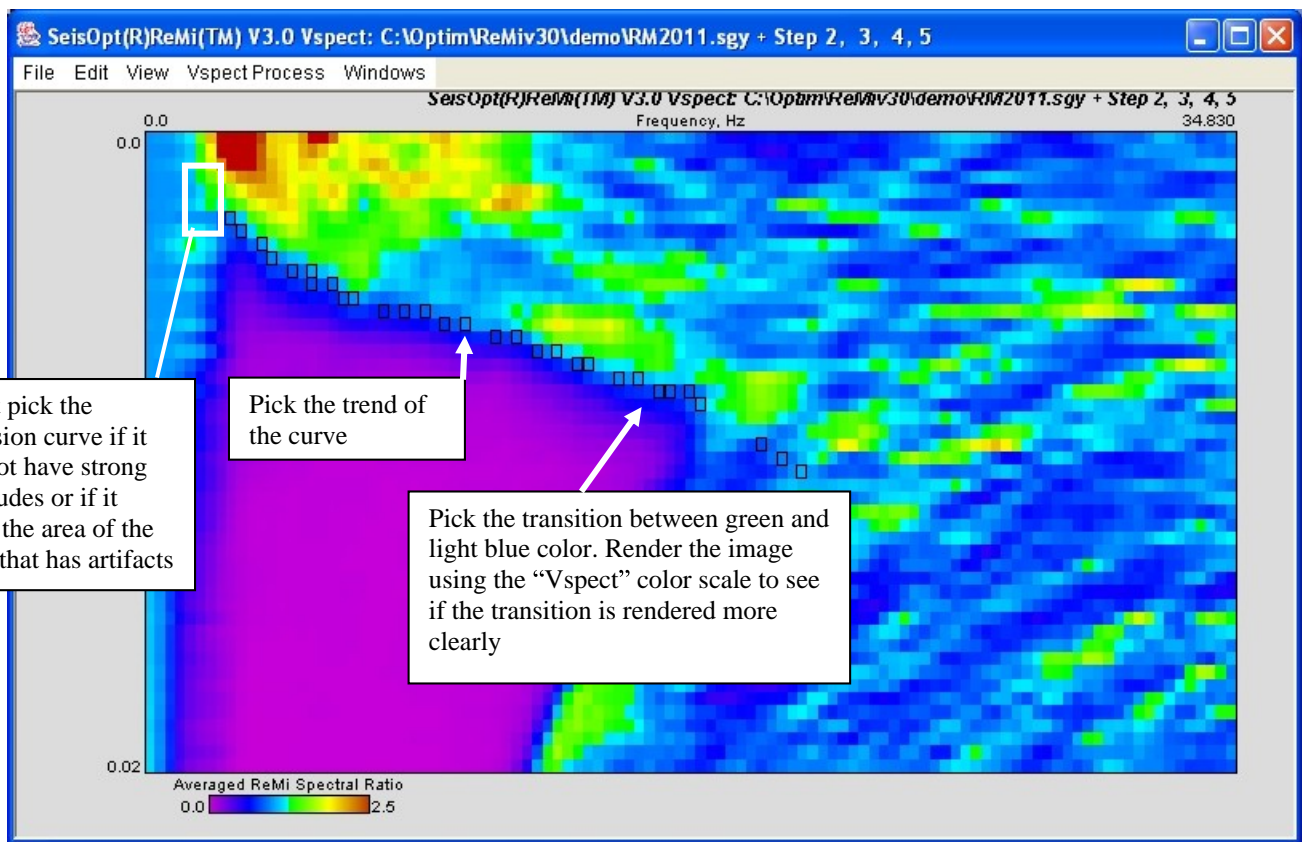

Figure 38: Window showing dispersion picks made on the p-f (velocity spectrum) image.
3. Pick several frequency-velocity pairs along the trend by left-clicking the mouse on the image (Figure 38)
6. It is not necessary that only one pick have to be made for a particular frequency. You can make more than one slowness pick for any given frequency. The range of slowness will give a bound on the velocities that are modeled. For example note that the picks in Figure 38 have some scatter to them. Since SeisOpt ReMi Disper determines the average shear-wave velocity, the picks do not have to be very accurate.